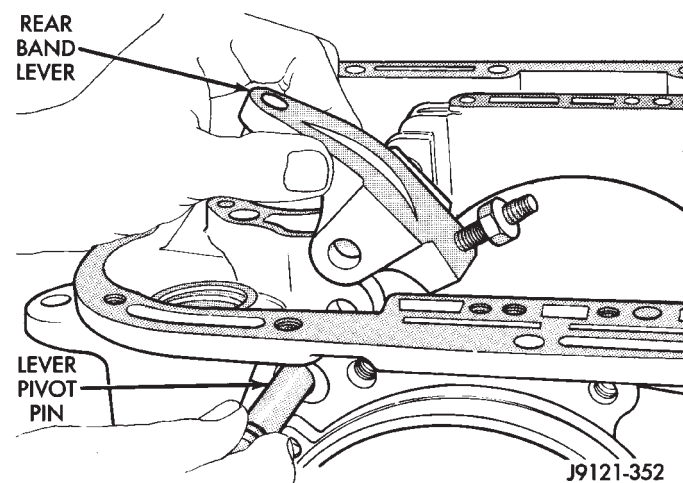

Fig. 165 Rear Band Lever And Pivot Pin Installation
(16) Install rear band lever and pivot pin (Fig. 165). Align lever with pin bores in case and push pivot pin into place.